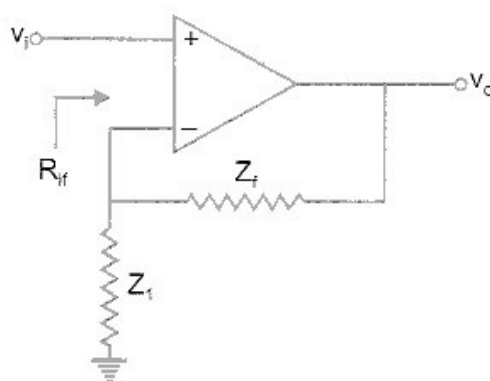

Fig. P. 2.8
2.8. Show that the input impedance for the non-inverting amplifier of Fig. P. 2.8 is